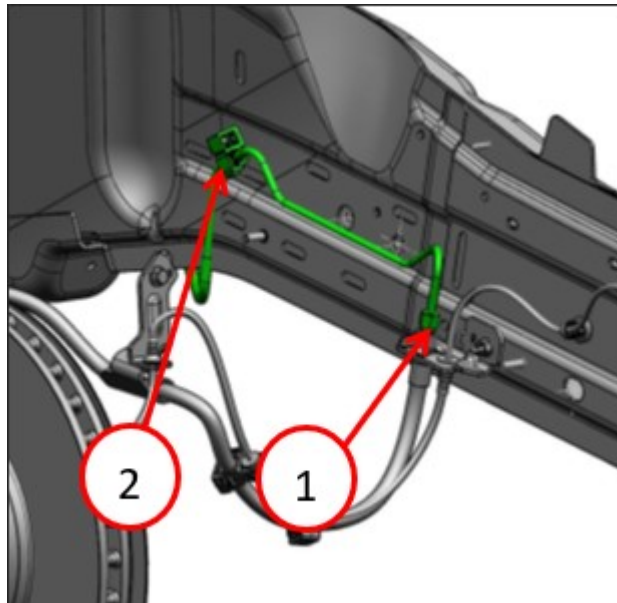

Fig. 2
9. Unthread brake line fittings and release retainer from the brake flex hose on the right side (Fig. 2) .